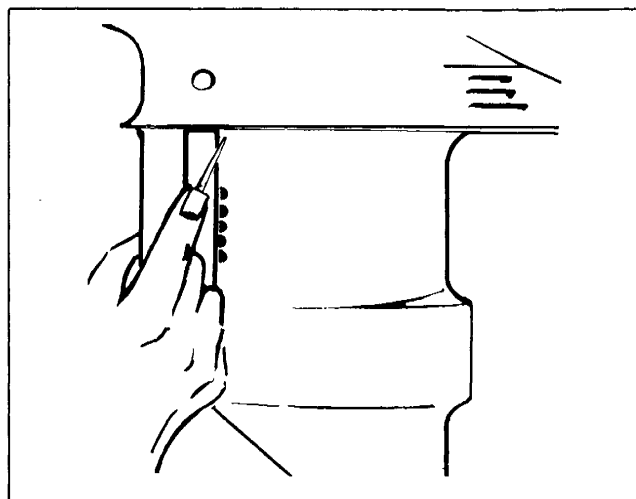

FIGURE 7
- a. Place a straight edge parallel with leading edge of water intake holes. Mark gearcase where straight edge meets curved radius below cavitation plate. See Figure 7.